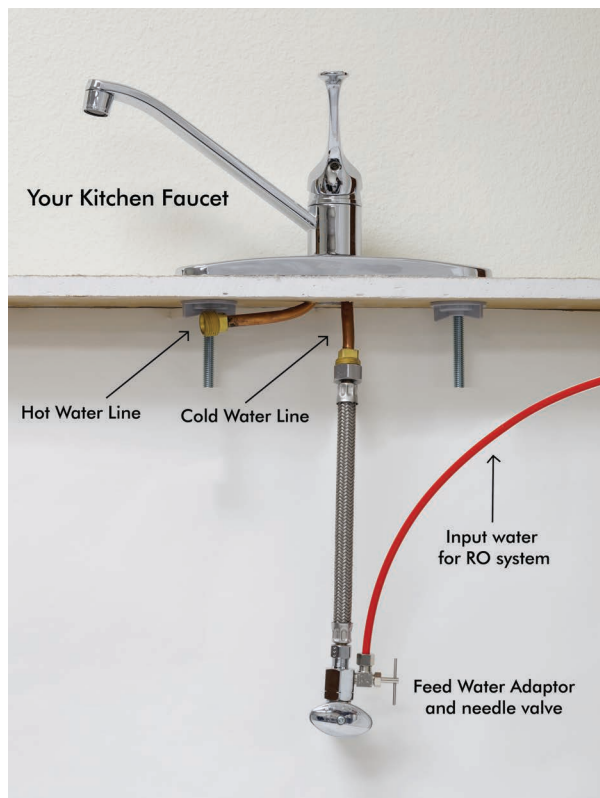

Fig. 5D
3. **Recommend Connection For Flex Line Riser:** See **Fig. 5A.** & **Fig. 5D** Loosen nut and separate cold water riser tube from shut off valve. Gently bend riser tube so that the Feed Water Adapter (**Fig 4**) fits onto the shut off valve. If your riser tube has no built-in washer, then fit the cone-shaped washer provided onto the riser tube. Connect the riser tube, feed water adapter, and shut off valve together and **tighten.**